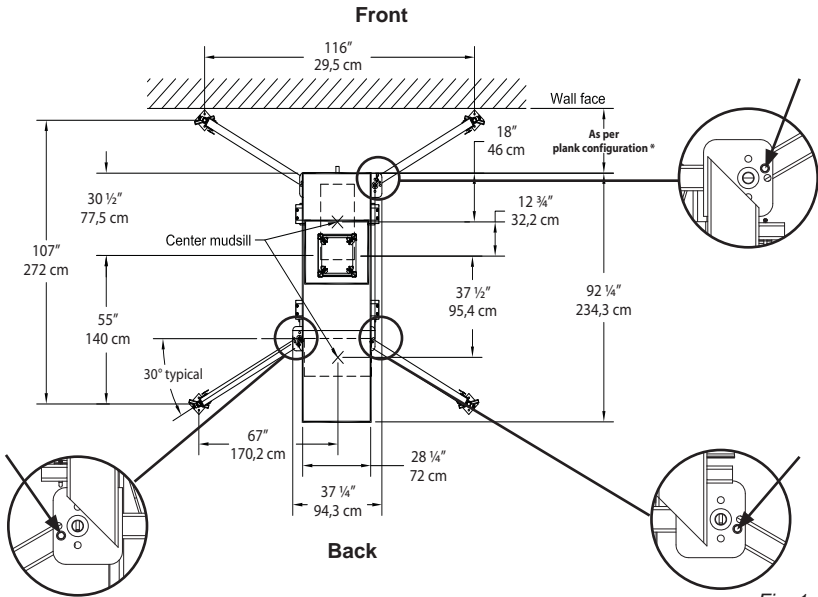

Fig. 1.15
- 8- Open all base outriggers at a 30-degree angle. Lock them in place by pushing pins through the holes on the base, as shown in fig. 1.15, on p. 12. For any other base outrigger configuration, contact the distributor or the Hydro Mobile technical support team.